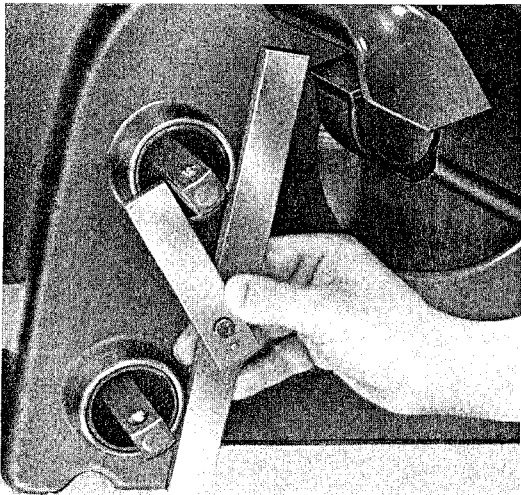

Fig. 52
2. Check angular position using homemade gauge (see fig. 52)